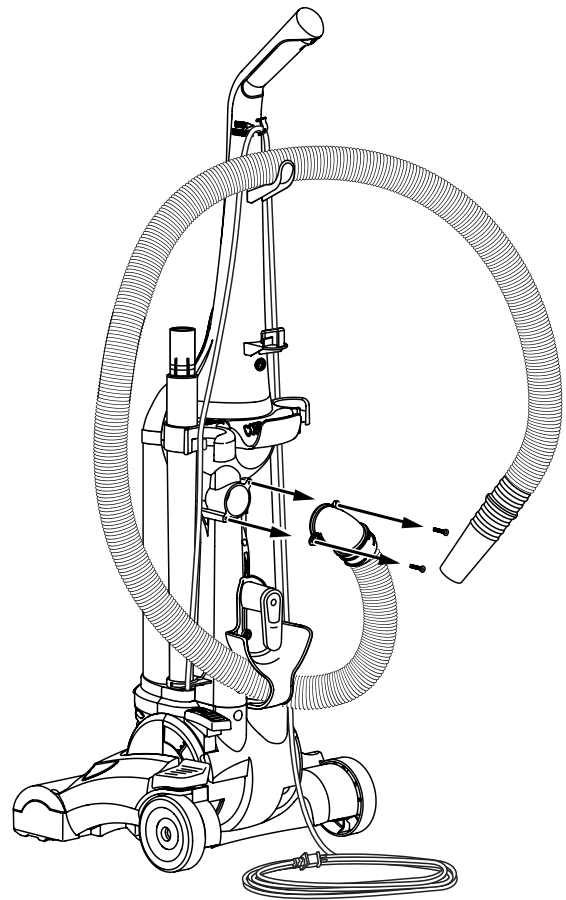

FIG. 21
Step 2: Remove electrical cord from cord hooks. Disconnect the clear tube by unscrewing the 2 screws, then lift away from cleaner. Check for any obstructions that may be in the tube or hose. Obstructions may be removed by using a blunt instrument to clear the tube or hose. Flexing the hose may help loosen the blockage. After clearing blockage, reverse above steps to reassemble unit. (FIG. 21)